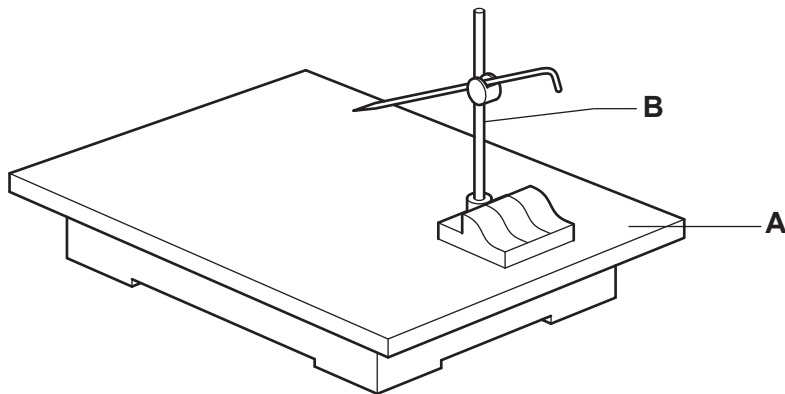

Fig. 5.1
- 5 Fig. 5.1 shows two items of equipment, **A** and **B**, used when marking out metal.
Name the items of equipment **A** and **B** in Fig. 5.1.